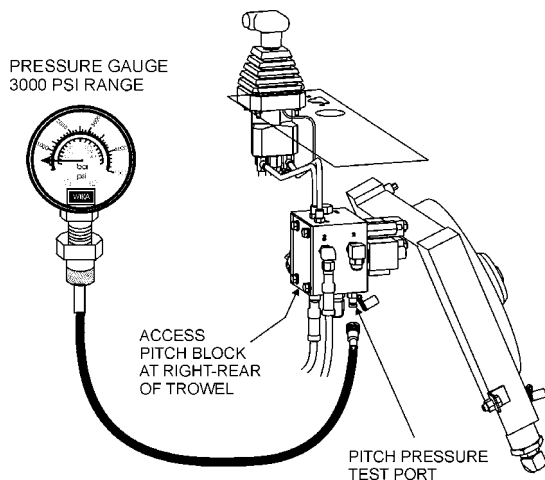

Figure 30. Pitch Pressure Check
1. Install 3000 PSI range pressure gauge to pitch pressure test port on pitch block (Figure 30).
2. Install 3000 PSI pressure gauge to pitch pressure test port on pitch block (Figure 30).